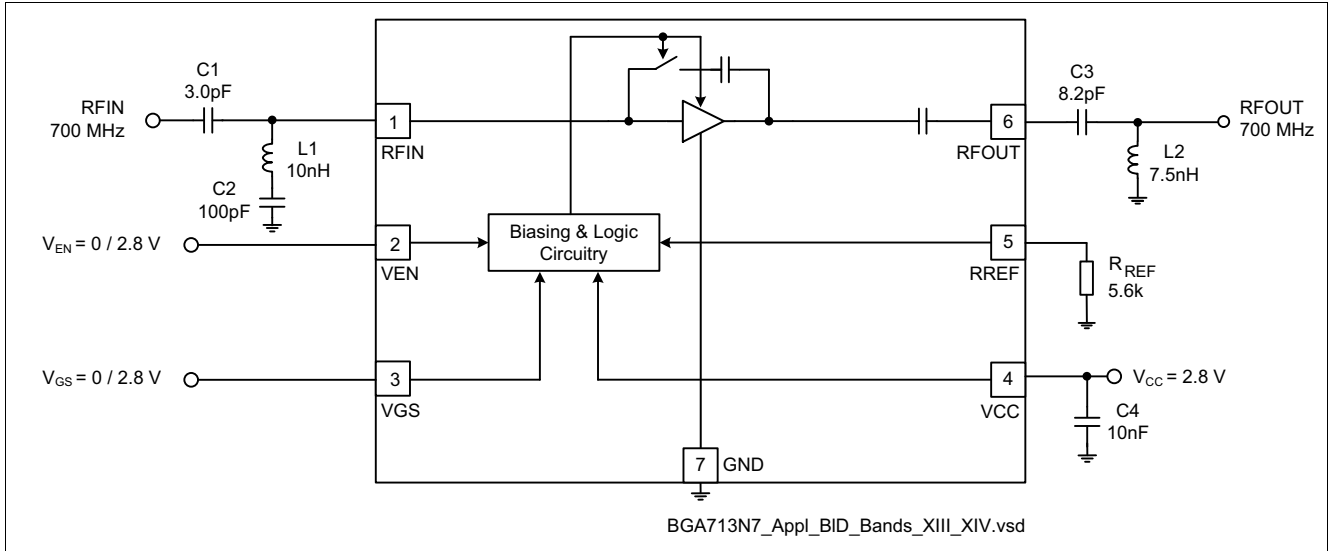

Figure 3 Application Circuit with Chip Outline (top view)
1) Performance based on application circuit in Figure 3 on Page 20